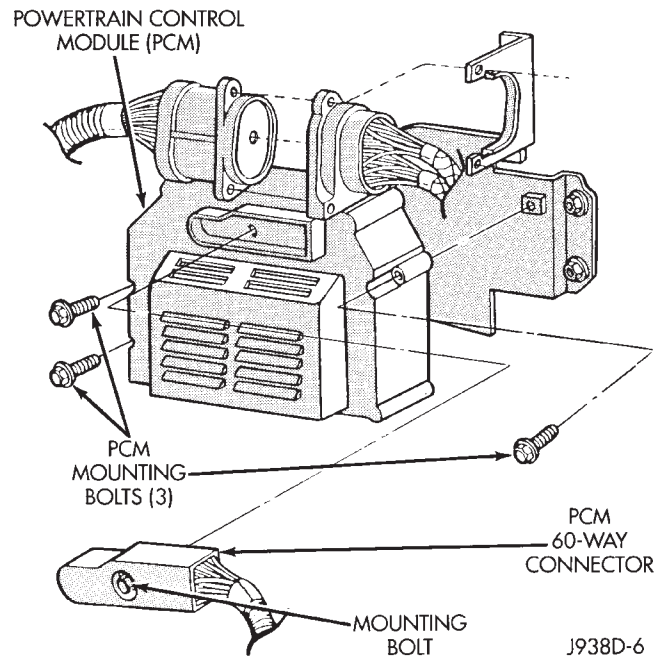
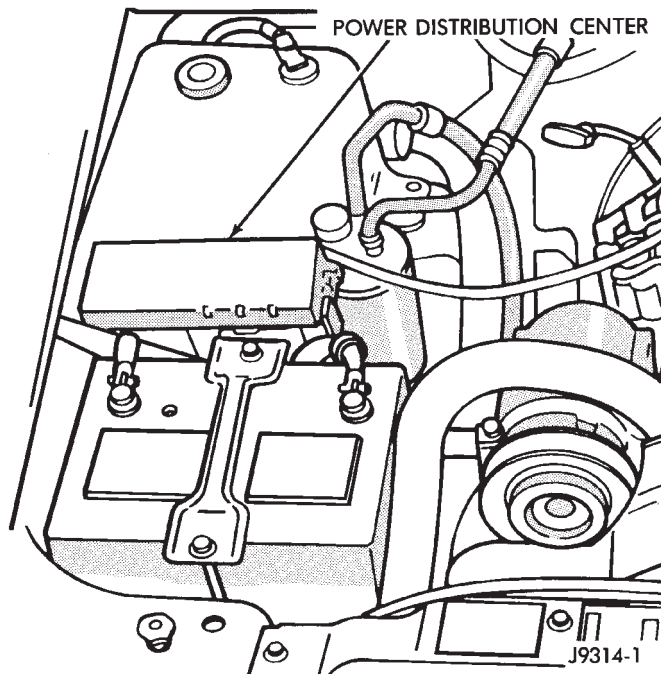

Fig. 1 Powertrain Control Module (PCM) Connector
Fig. 2 Power Distribution Center
(1) Verify that the 60-way connector is fully inserted into the connector of the Powertrain Control Module (PCM) (Fig. 1). Verify that the connector mounting screw is tightened to 4 N•m (35 in. lbs.) torque.
(2) Inspect the battery cable connections. Be sure that they are clean and tight.
(3) Inspect fuel pump relay, air conditioning compressor clutch relay (if equipped) and ASD relay. These are located in the Power Distribution Center (Fig. 2). Inspect starter motor relay connections. Inspect relays for signs of physical damage and corrosion.